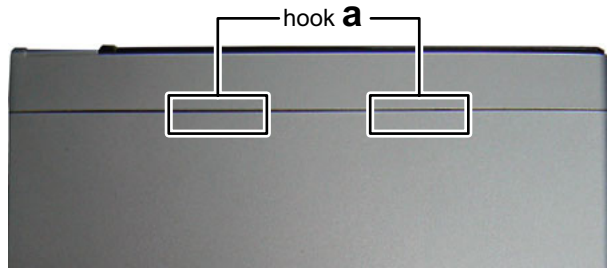

Fig.4
(4) Disengage two hooks **a** engaged Top cover. (See Fig.4)